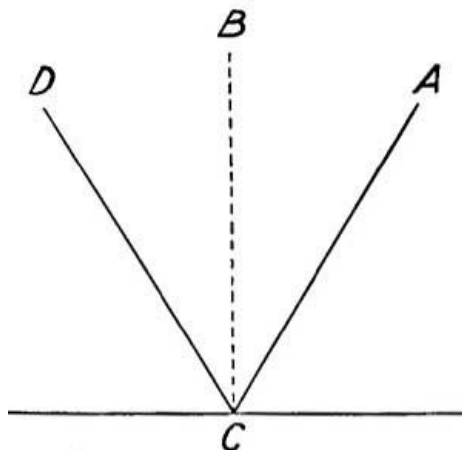

FIG. 60.—The ray AC is reflected as CD.
If a mirror is held so that a ray of light strikes it in a perpendicular direction, the light is reflected backward along the path by which it came. If, however, the light makes an angle with the mirror, its direction is changed, and it leaves the mirror along a new path. By observation we learn that when a beam strikes the mirror and makes an angle of  $30^\circ$  with the perpendicular, the beam is reflected in such a way that its new path also makes an angle of  $30^\circ$  with the perpendicular. If the sunbeam strikes the mirror at an angle of  $32^\circ$  with the perpendicular, the path of the reflected ray also makes an angle of  $32^\circ$  with the perpendicular. The ray (AC, Fig. 60) which falls upon the mirror is called the incident ray, and the angle which the incident ray (AC) makes with the perpendicular (BC) to the mirror, at the point where the ray strikes the mirror, is called the angle of incidence. The angle formed by the reflected ray (CD) and this same perpendicular is called the angle of reflection. Observation and experiment have